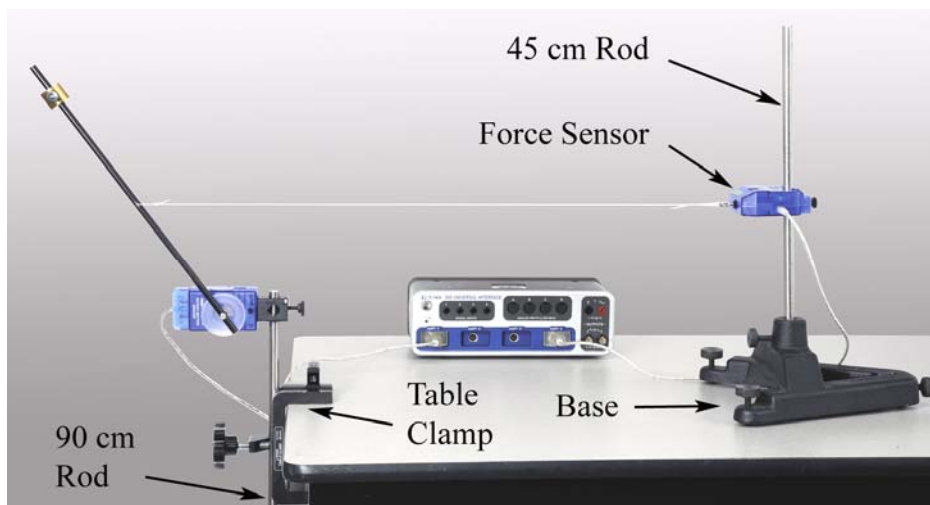

Figure 1. The Rotary Motion Sensor measures the angle of the black rod.
1. Position the Rotary Motion Sensor out over the end of the table using the table clamp and 90 cm rod as shown in Figure 1. Plug the sensor into port P1, but don't attach the black rod yet to the Rotary Motion Sensor.
9. Hook the string to the Force Sensor, and adjust the position of the large base to support the black rod at an angle, as shown in Figure 1.